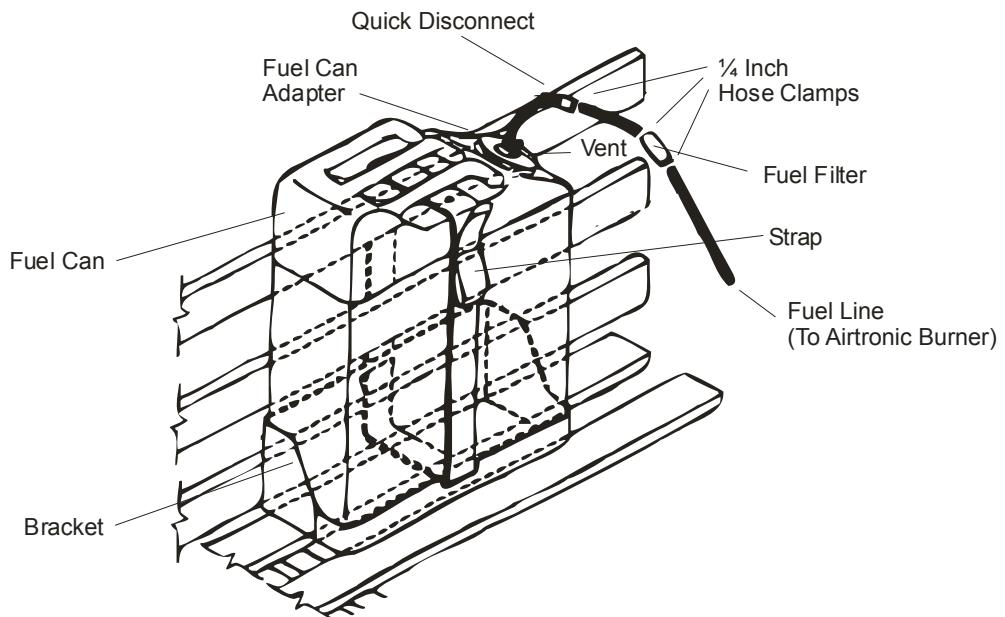

Figure 2-2. Fuel Can Installation
(2) Step 2. Place a fuel can, filled with appropriate fuel (table 1-3), (DO NOT fill can while in HMMWV) in the bracket and secure as shown in figure 2-2. Run the securing strap in back of the can and in back of the boards of the troop seat, go through fuel can handle. DO NOT run strap over the top of the can handles. Fasten the strap and tighten securely.